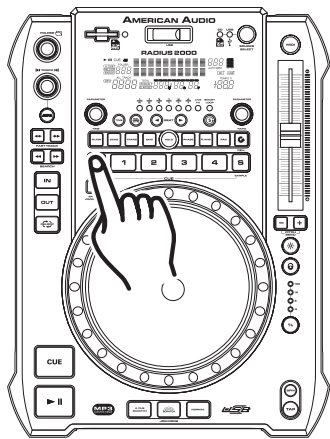

Figure 14
A cue point is the exact point playback will begin when the *PLAY/PAUSE BUTTON* (13) is pressed. You may set your cue points anywhere in a track. You may set up to three independent cue points per folder. Three cue points are stored in the *BANK BUTTONS 1-4* (28). There are two (2) ways to set a CUE point as detailed in figures 14 and 15.
- 1) You may press the *IN BUTTON* (15) on the fly (while the track is playing). This will set a CUE Point without music interruption. Pressing the *CUE BUTTON* (14) will now return you to the same point that you pressed the *IN BUTTON* (15). You may now store this CUE Point in any of the *BANK BUTTONS 1-4* (28).
- 1) Create a Cue Point by one of the two means listed on page 20. Press the **MEMORY BUTTON (30)**, as in Figure 14. The red Memory Cue LED will glow indicating the store memory function has been activated. You may now press any one of the three **BANK BUTTONS (28)** to store your cue point into memory (Figure 16). After pressing one of the **BANK BUTTONS (28)**, the corresponding Bank Button LED will flash briefly. The LED on the the **BANK BUTTON (28)** will remain lit indicating either a sample or cue point is stored in memory. The red Memory LED will turn off.